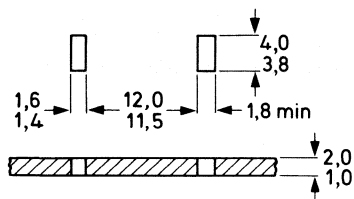

Fig. 1 Heatsink requirements.
2. Push the short end of the clip into the narrow slot in the heatsink with clip at an angle of 10° to 30° to the vertical (see Figs 1 and 2).